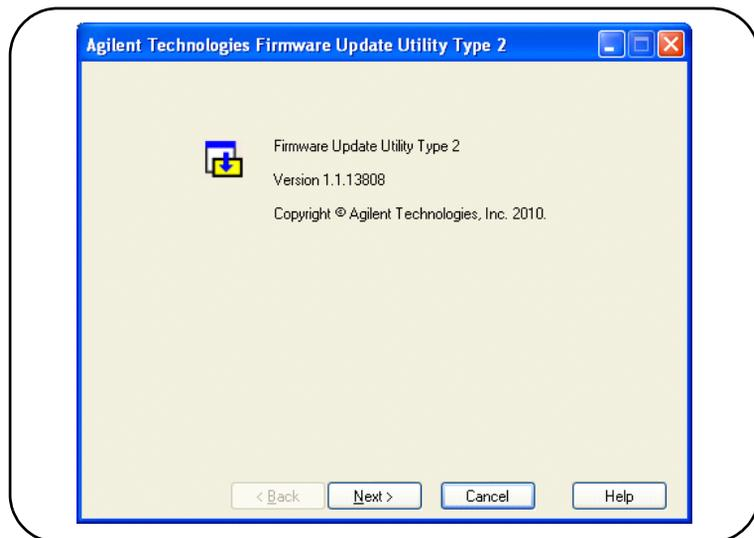

Figure 2-9. Firmware Update Utility File Selection Window.
1. From the installation directory or 'start' menu, start the utility. A window similar to that shown in Figure 2-9 should appear.